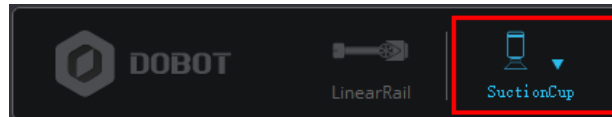

Figure 5.112 Choose SuctionCup as the end-effector
Step 2 Choose **SuctionCup** as the end-effector on the **DobotStudio** page, as shown in Figure 5.112.